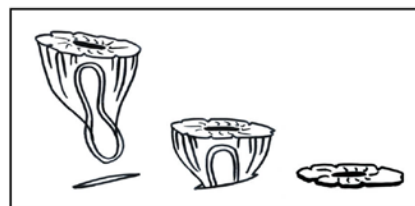

Figure 2. Insert Bottom Ring
- Insert the bottom fixed-diameter ring of the CleanCision device through the incision. (Figure 2)